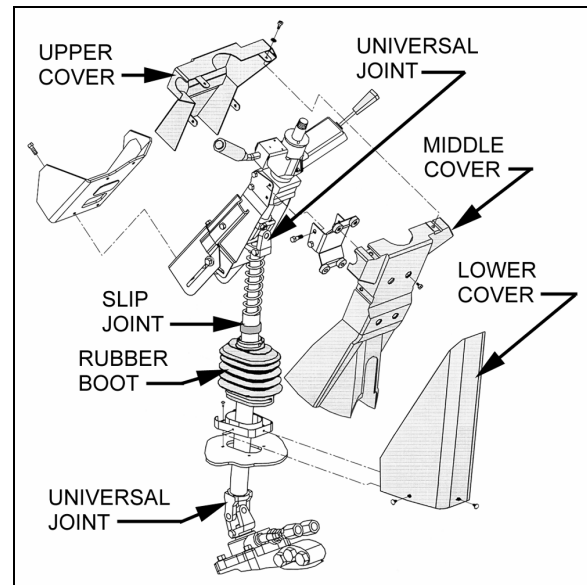

FIGURE 4: STEERING COLUMN
To disassemble the steering column from system, refer to Figure 4. The steering column has no lubrication points. The lower steering column U-joint is easily accessible through the front service compartment. The upper steering column U-joint and the steering slip joint are accessible from the front driver's area. To access these joints, proceed as follows:
1. From the front driver's compartment area, remove the three plastic fasteners on steering column lower cover. Remove the lower cover (Fig. 4).